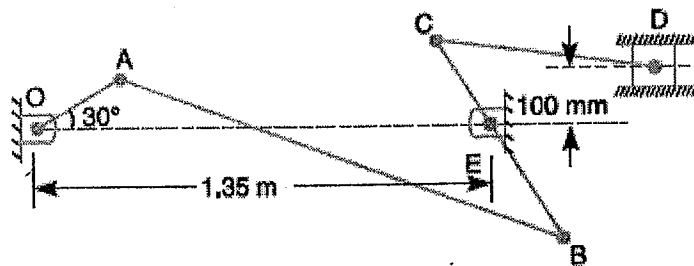

Fig.Q01
1. A mechanism, as shown in Fig.Q01, has the following dimensions: